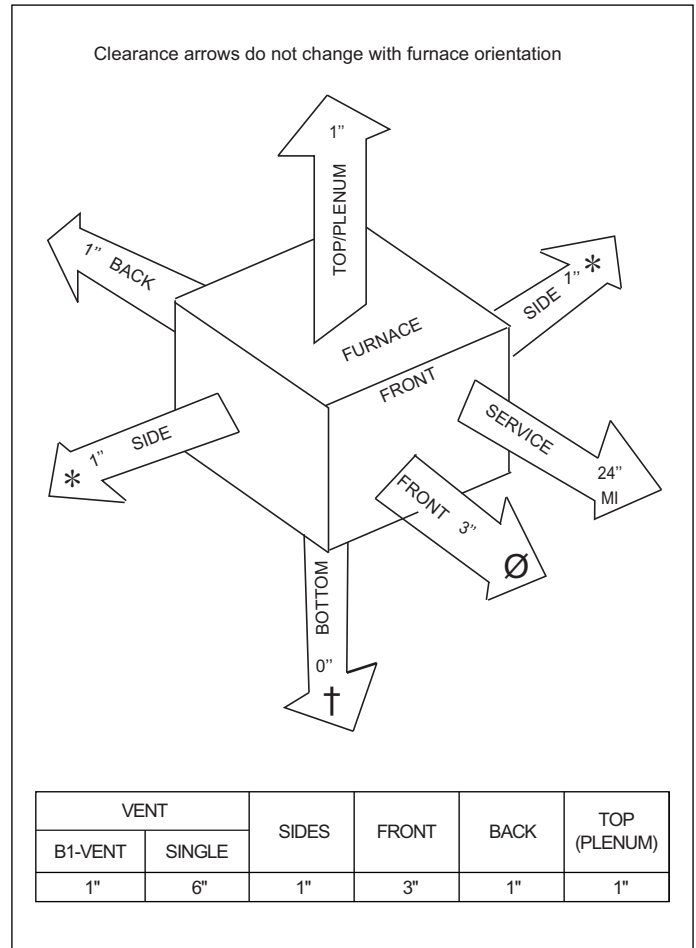

Figure 2 Minimum clearance from combustible construction
See Section 3, Fig. 2 for required clearances to combustible construction.
This furnace may be installed on combustible flooring in alcove or closet at minimum clearance as indicated by Figure 2.
- ▶ Not be installed directly on any combustible material other than wood flooring. Refer to Section 3 Fig 2. for required clearances.
- ▶ Be provided ample space for servicing and cleaning. Always comply with minimum fire protection clearances shown on the furnace clearance to combustible label. Refer to Section 3, Fig 2.